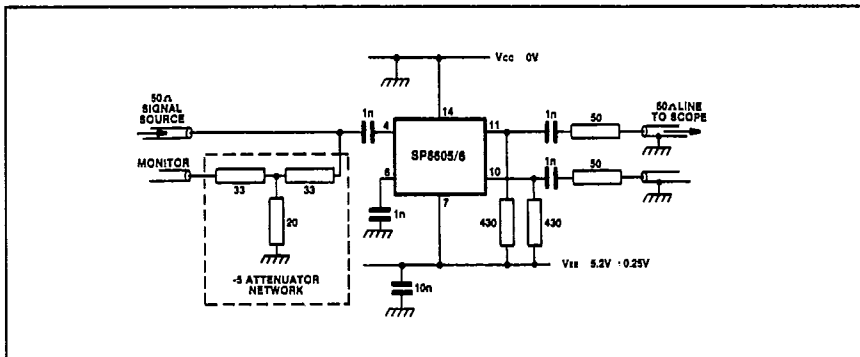

Fig.5 Toggle frequency test circuit
4. The test configuration for dynamic testing is shown in Fig.5.